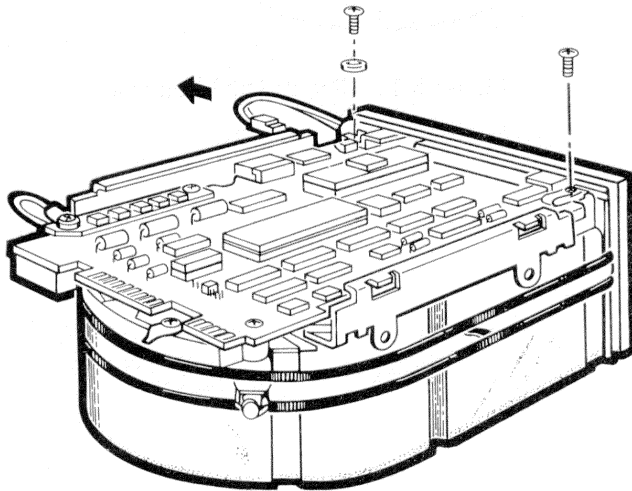

Figure 6-9 Removing the 2-pin Connector and Screws
2. Unplug the 2-pin connector. (Figure 6-9)